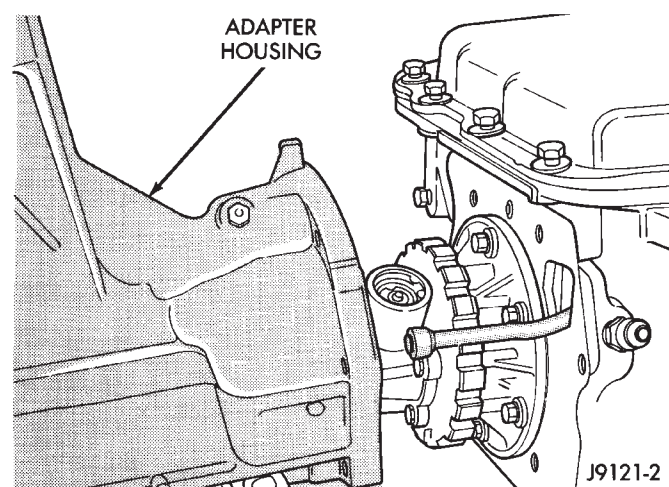
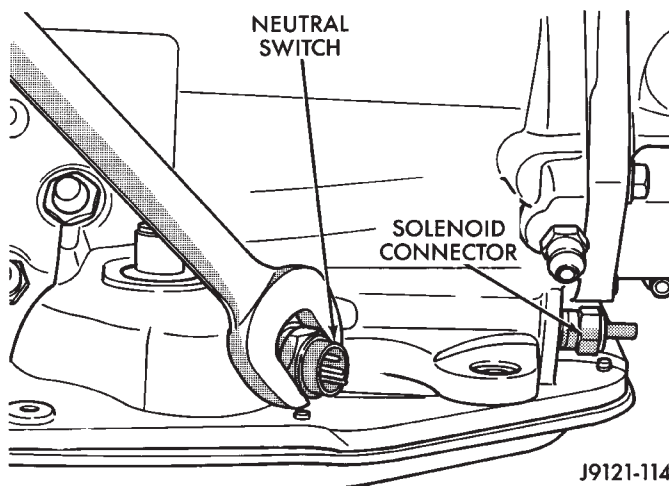

Fig. 2 Adapter Housing Removal/Installation (4 x 4 Models)
Fig. 3 Park/Neutral Position Switch Removal/Installation
(4) Remove nuts attaching adapter, or extension housing to transmission case.
(5) Remove adapter/extension housing and gasket (Fig. 2).
(6) Remove rear bearing and snap ring, if equipped.
(7) Remove park/neutral position switch and seal (Fig. 3).